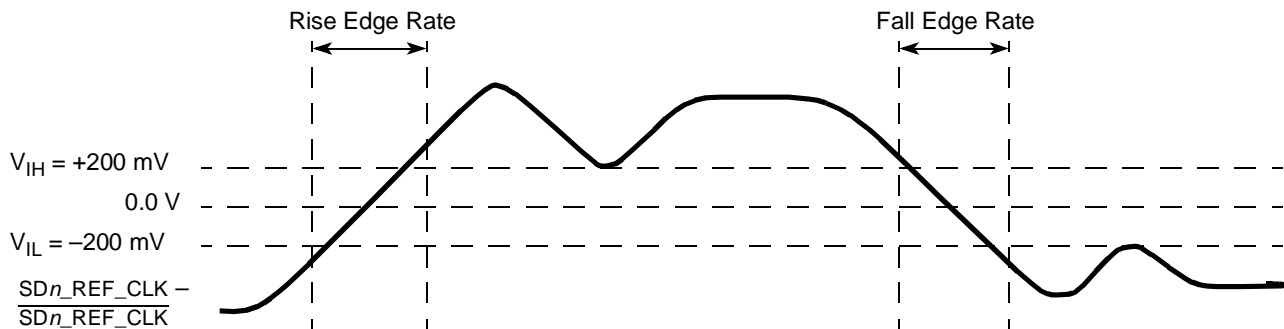

Figure 47. Differential Measurement Points for Rise and Fall Time
- Measured from -200 mV to +200 mV on the differential waveform (derived from $\overline{SDn_REF_CLK}$ minus $\overline{SDn_REF_CLK}$). The signal must be monotonic through the measurement region for rise and fall time. The 400 mV measurement window is centered on the differential zero crossing. See Figure 47.